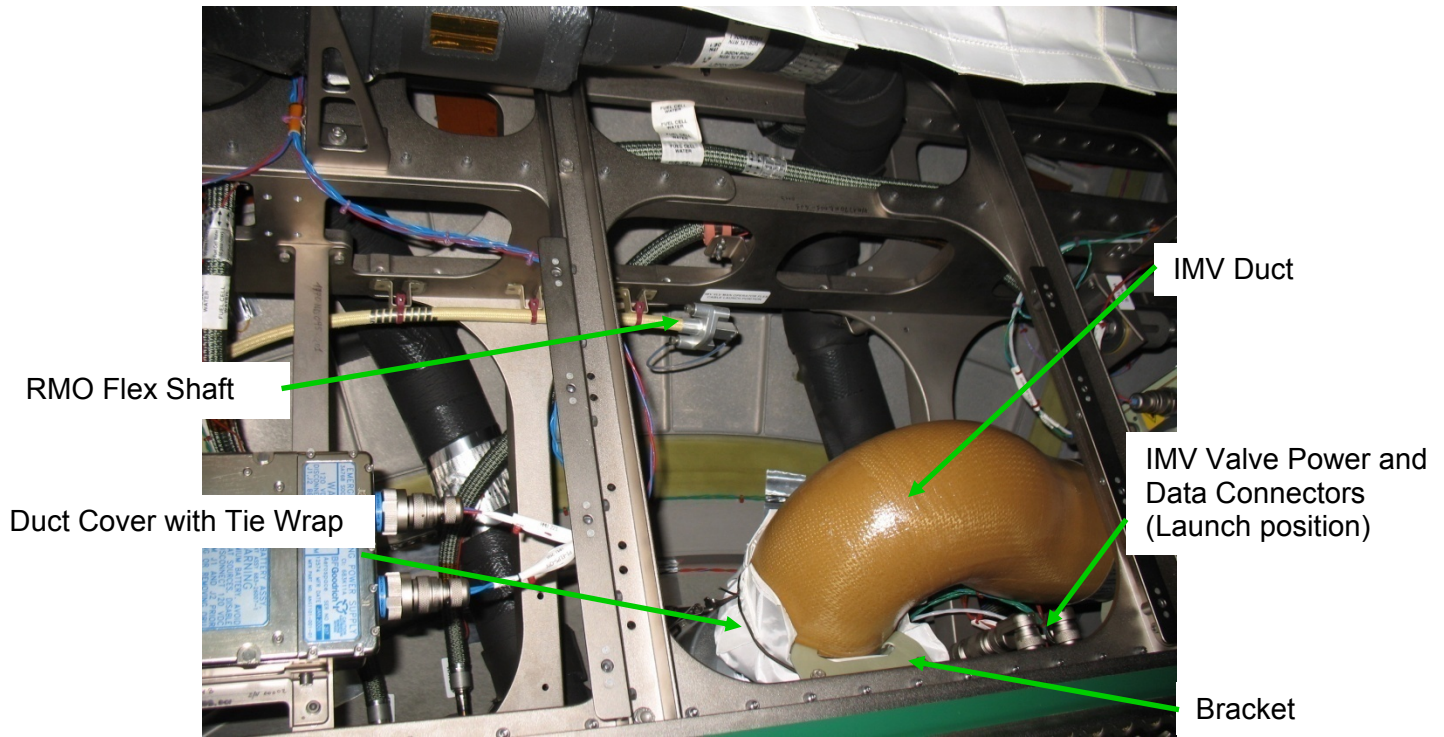

Figure 4. - Node 3 Starboard Overhead IMV Duct. (View looking Stbd).
Refer to Figure 4.
- 5.3 Release RMO Flex Shaft from launch location by cutting red wire ties (Wire Cutters). Remove Tethered Cap from end of RMO Flex Shaft (Ratchet, 1/4" Drive; 4" Ext, 1/4" Drive; 5/32" Hex Head, 1/4" Drive). Refer to Figure 4.
Refer to Table 3, Figure 4